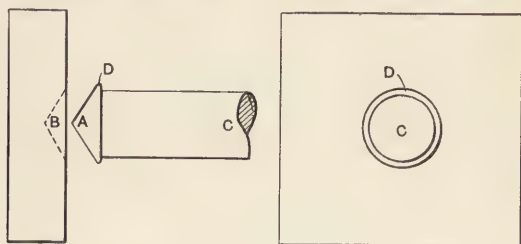

Fig.51
**Jump Welding.**—In Fig. 51 are two views to illustrate jump welding. The point *A* should be so shaped that it will touch part *B* first, before the edges come in contact. By looking out for this and striking heavy blows on the end of piece *C* all the slag can be
driven out from between the two pieces being welded. When the pieces are well stuck together, use the fuller around shoulder *D*. Fig. 52 shows the jump weld job when completed. It will be noticed that the stem *C* is on the opposite side from where it is in Fig. 51, making it necessary to show the stem by a dotted circle
instead of by a circle drawn with a full line as in Fig. 51. This explanation is just to help out on the drawing question.